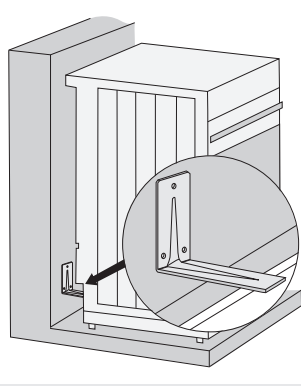

Figure 1
- Place the shorter end of the angle bracket against the mark on the wall. The longer end of the bracket should touch the upper surface of the profile at the back of the appliance (Figure 1).